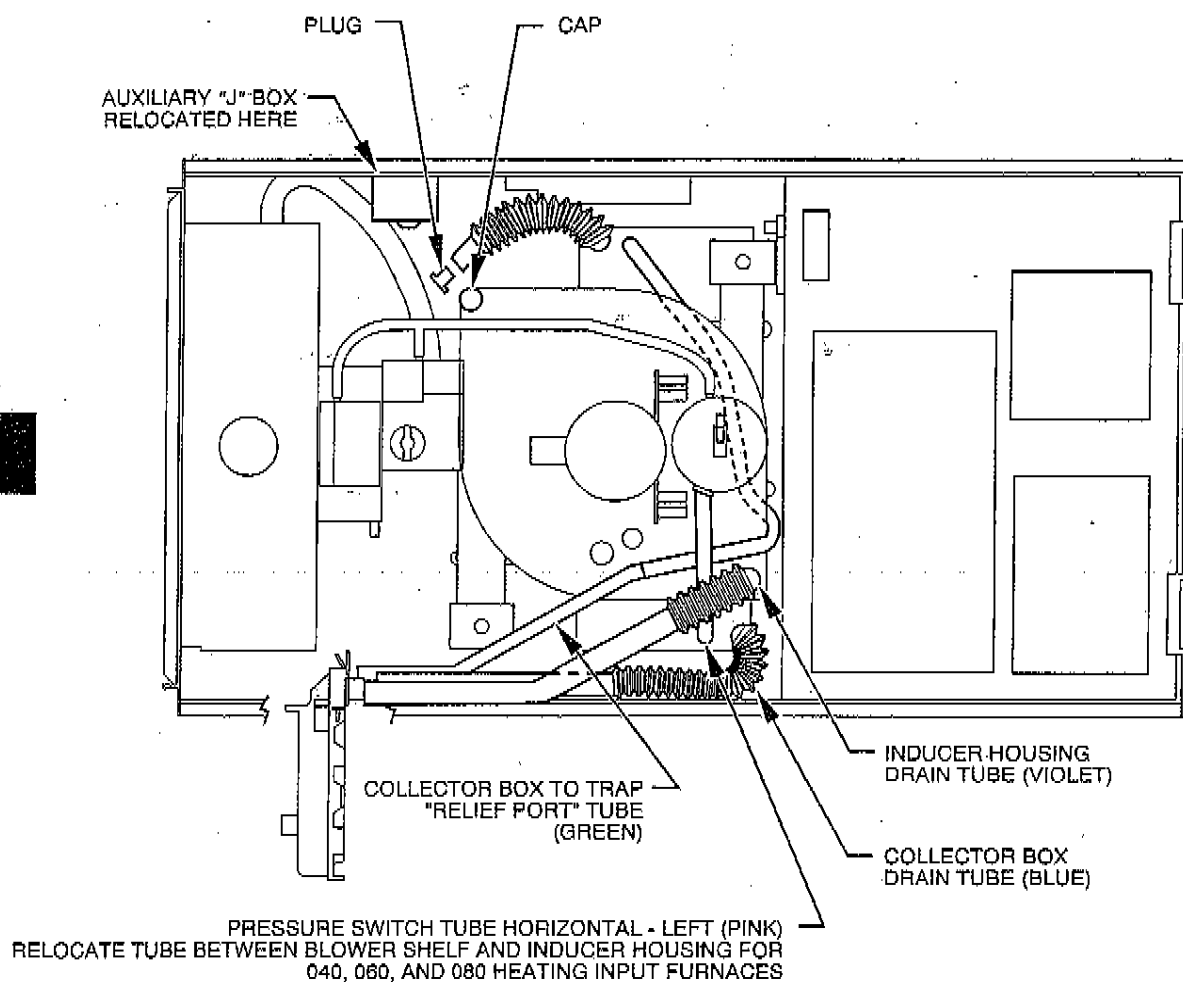

Fig. 8—Horizontal Left Tube Configuration
**NOTE:** The auxiliary junction box (J-Box) MUST be relocated to opposite side of furnace casing. (See Fig. 8.) See Electrical Connection section for J-Box relocation. Insert trap in appropriate hole by positioning drain tube stubs in hole and rotating downward until latches engage in furnace casing. If desired, trap can be attached to furnace casing after it is installed. Using slotted tab in trap as a guide, drill and install field-supplied screw. Note that screw attachment is only an option and not required.
The pressure switch tubes connections are shipped from the factory assembled for the horizontal left application and should not require any modifications. See Fig. 8 to check routing and connection location of pressure switch tubes.